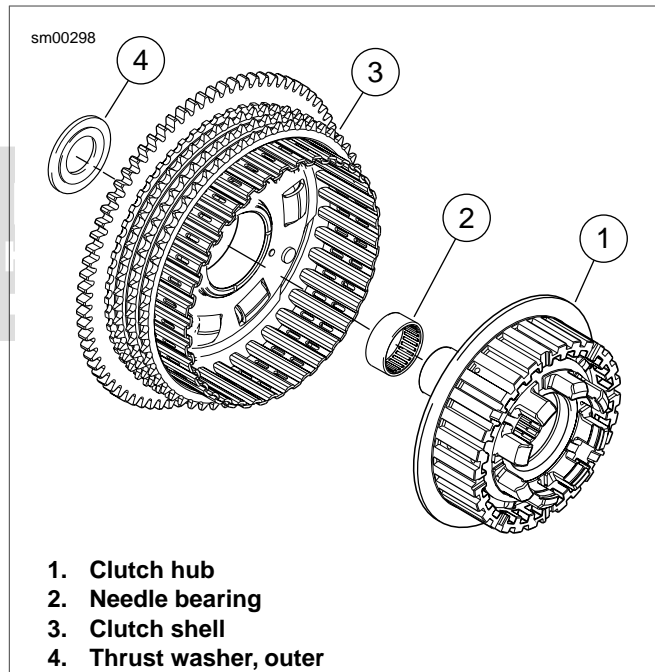
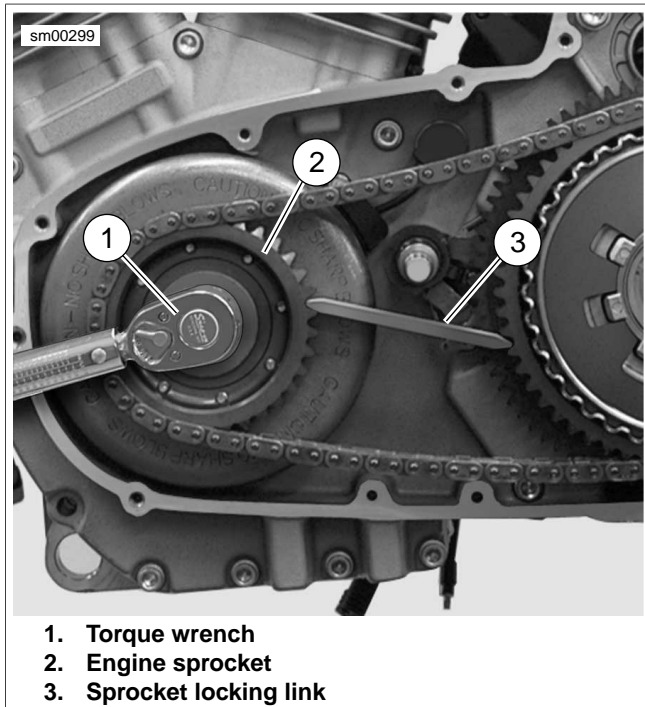

Figure 5-34. Clutch Hub and Shell Assembly
Figure 5-35. Sprocket Locking Link Tool
1. See Figure 5-34. Assemble clutch hub (1) and shell (3) by sliding inboard end of clutch hub into shell bearing (2) by hand. No tools are required.
3. Verify that outer thrust washer (4) is installed on transmission shaft.
5. See Figure 5-35. Install the engine sprocket bolt.